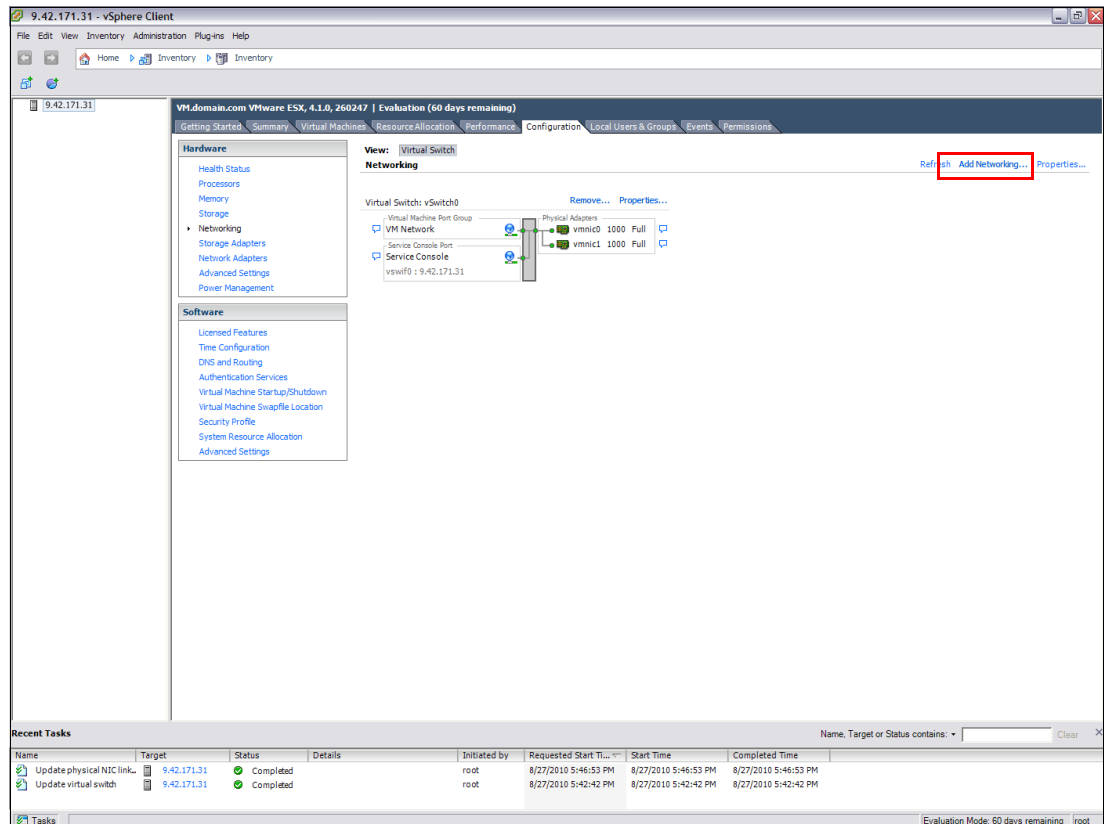

Figure 22-68 Add Networking
1. In the upper right corner, click **Add Networking** as shown in Figure 22-68 on page 700.